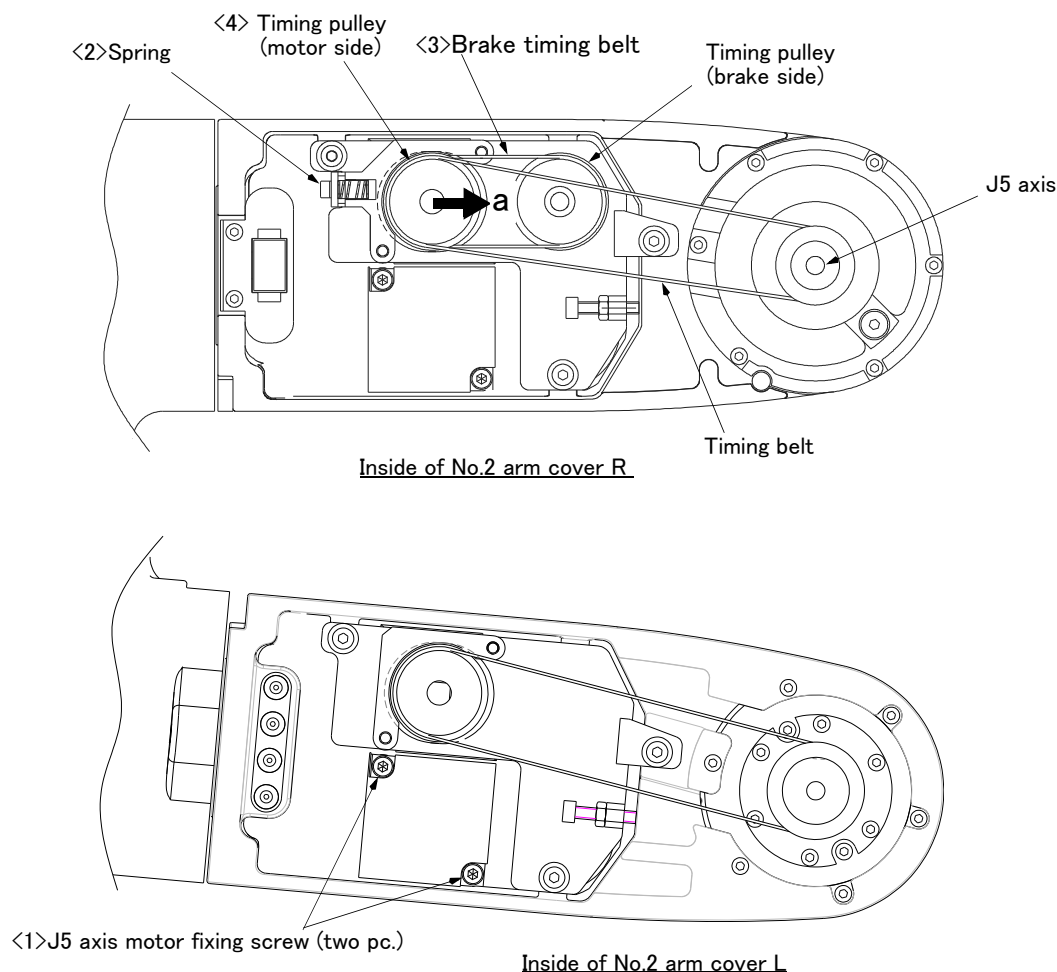

Fig.5-10 : Inspection, maintenance and replacement of J5 axis brake timing belt
The reference figure at inspection, adjustment, and replacement of the brake timing belt is shown in Fig. 5-10. After adjustment of J5 axis brake timing belt, the adjustment of the timing belt which rotates the J5 axis is also needed. Moreover, it is necessary to remove J5 axis timing belt for the replacement of brake timing belt.
- 3) Loosen motor fixing screw (1). (two pc.) (Do not loosen too much.)
- 4) Move motor side timing belt pulley (4) in the direction of the arrow "a" of Fig. 5-10 , and remove the brake timing belt..